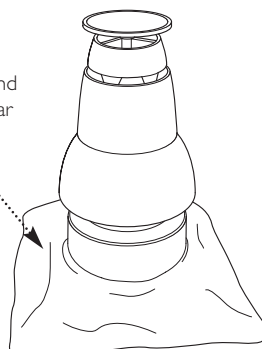

Fig. 34
19. Cement over the closure plate and air duct collar to a depth of approximately 100mm. Consideration should be given to the potential accumulation of snow in this area, and the possibility of it blocking the air inlet (Fig. 34).